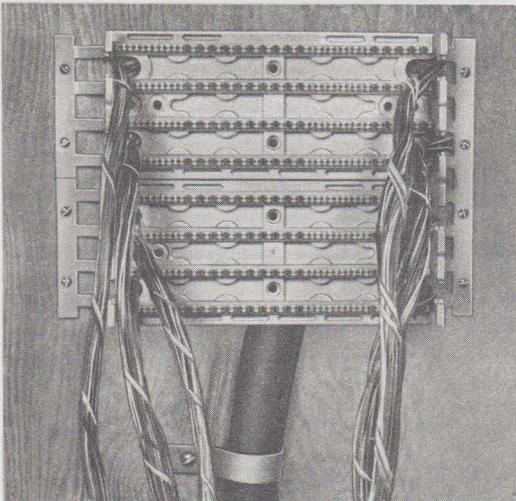

Fig. 15—200-Pair Cable in Cable Slots
3.08 Remove the cable sheath for multiple binder cables, approximately twice the length of the wiring block, allowing the sheath end to extend under the backboard. The cable is separated into 25-pair groups with their proper identification (color binder). The 25-pair binder groups are threaded through the cable slots provided in the backboard (blue-white through cable slot number 1 to row 1, orange-white through cable slot number 2 to row 2, green-white through cable slot number 3 to row 3, brown-white through cable slot number 4 to row 4, etc (Fig. 15).